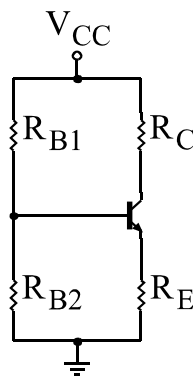

Figure 2.5
- c) Figure 2.5 shows a simple bias network for an npn transistor amplifier. With proper selection of the values of  $R_{B1}$ ,  $R_{B2}$ ,  $R_C$ , and  $R_E$  we can bias the transistor in its active region. Use  $V_{CC} = 15\text{ V}$  and  $I_C = 1\text{ mA}$  in the following.